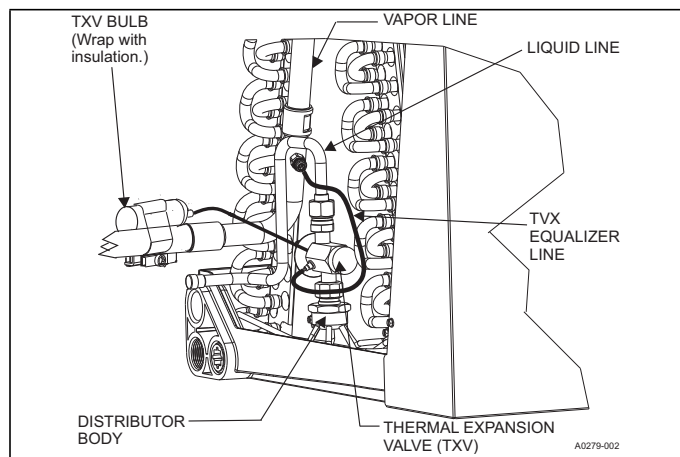

FIGURE 7: TXV Bulb and Equalizer Line Installations
6. Install the TXV equalizer line onto the vapor line by hand tightening the 1/4" SAE coupling nut to the equalizer fitting, and apply an additional 1/3 turn to seal. See Figure 7.
8. Install the TXV bulb to the vapor line near the cabinet, using the bulb clamp(s) furnished with the TXV assembly. Ensure the bulb is making maximum contact. See Figures 7, 8 & 9, and accomplish the following: